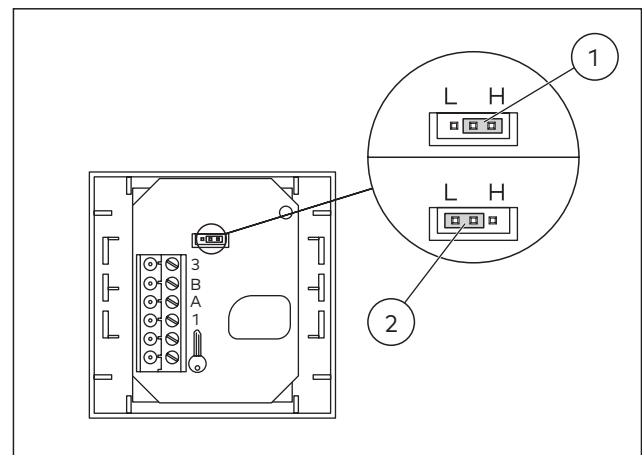

Fig. 101 Jumper settings
- Jumpers in the program switches are set correctly (Fig. 101).